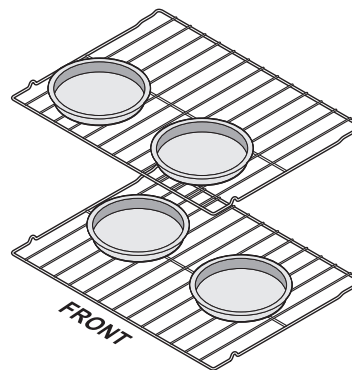

Figure 4: Pan placement
- When baking using two oven racks, position bakeware as shown in Figure 4. Allow at least 2 inches (5 cm) of space between bakeware for proper air circulation.